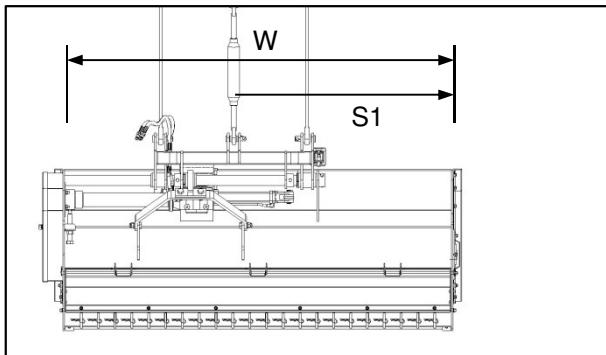
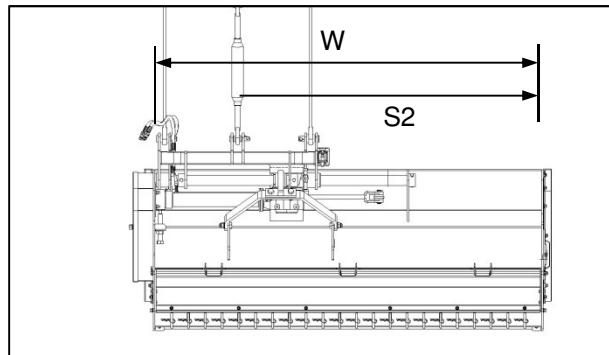

Fig. 6
Fig. 7
- ✓ Lift the implement clear of the ground and set the desired offset position (Fig. 6 / Fig. 7).
- ✓ Standard position (Fig. 6) S1 = Working width (W) - 500 mm.
- ✓ Maximum offset position (Fig. 7) S2 = Working width (W) - 1000 mm.
- ✓ Lig die implement van die grond af en stel die kontrahaak in die verlangde posisie (Fig. 6 en Fig. 7).
- ✓ Standaardposisie (Fig. 6) S1 = Werkswydte (W) – 500 mm.
- ✓ Maksimum-kontrahaakposisie (Fig. 7) S2 = Werkswydte (W) – 1 000 mm.